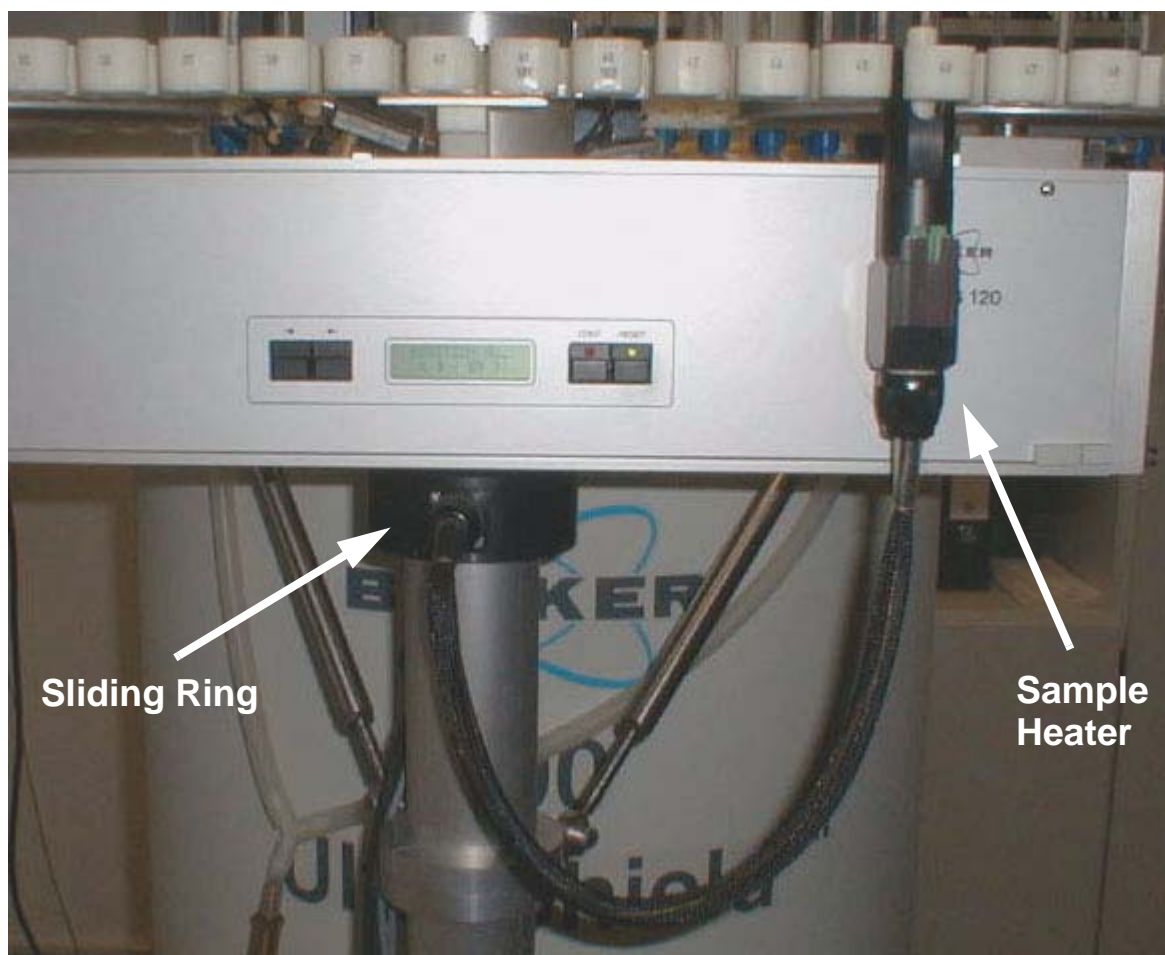

Figure 13.2. The B-ACS Sample Heater Mounted on the Cabinet Assembly
In addition, a sliding ring for transmission from the DC power supply, must be placed directly under the cabinet (see **Figure 13.2**).
- B-ACS Sample Heater(s) 120C Part No. H1385 (**Figure 13.2.**).
H5886	B-ACS Sliding Ring (Figure 13.2.)
Connect the Power Supply (Part/No. H1455) to the sliding ring (Part/No. H5886) under the cabinet using the enclosed cable (**Figure 13.2.**).
Connect the sliding ring (Part/No. H5886) to the Heater Supply 2 (**Figure 13.2.**).